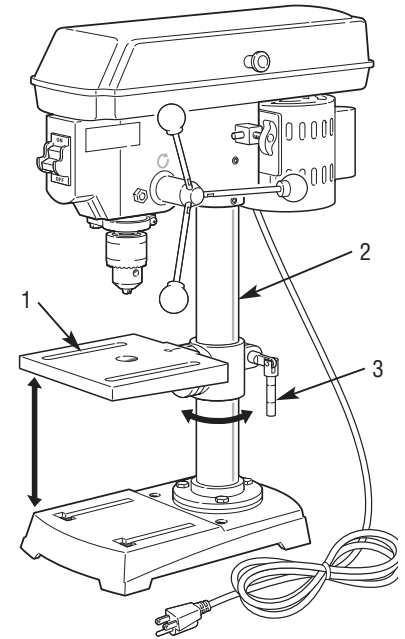

FIGURE 12. ADJUSTING THE WORK TABLE
1. The worktable (1) can be raised or lowered on the drill press column (2) by loosening the table clamp (3). See Figure 12.
2. After the table is positioned at the desired height, LOCK the table in place by tightening the table clamp (3). NOTE: Final positioning of the table should always be made from the bottom to the top position.
3. The worktable (1) can be rotated 360 degrees around the column (2) by loosening the table clamp (3). Rotate the table to the desired position and LOCK the table in place by tightening the table clamp (3). See Figure 12.